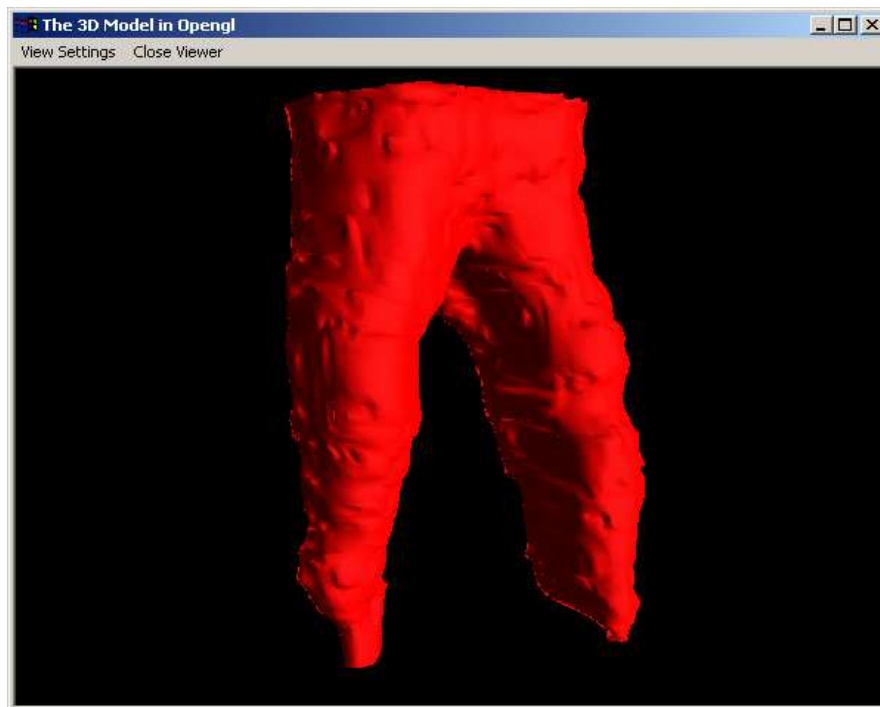

Figure 8: Displayed solid 3D surface model.
*Solid* command: It displays polygon filled with texture (Figure 8).